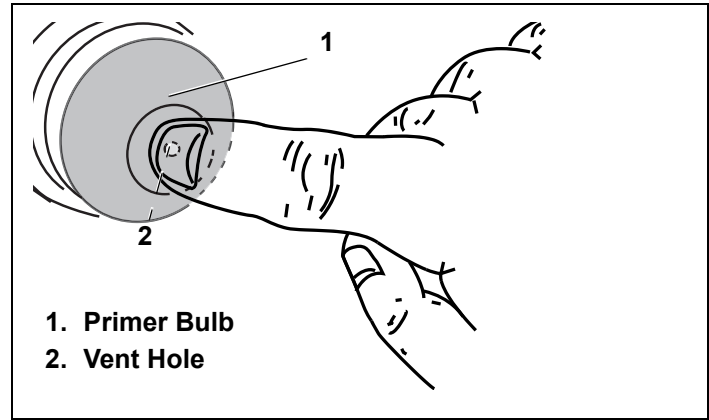

Figure 24. Pressing Primer Bulb
- When starting a cold engine, push primer bulb firmly 3 times, allowing primer bulb to return completely to original position between pushes. See Figure 24.
Be sure to cover vent hole when pressing primer bulb. See Figure 24.
3. When starting a cold engine, push primer bulb firmly 3 times, allowing primer bulb to return completely to original position between pushes. See Figure 24 on page 11. Afterward, continue reading instructions below.
Be sure to cover vent hole when pressing primer bulb. See Figure 24 on page 11. Afterward, continue reading instructions below.